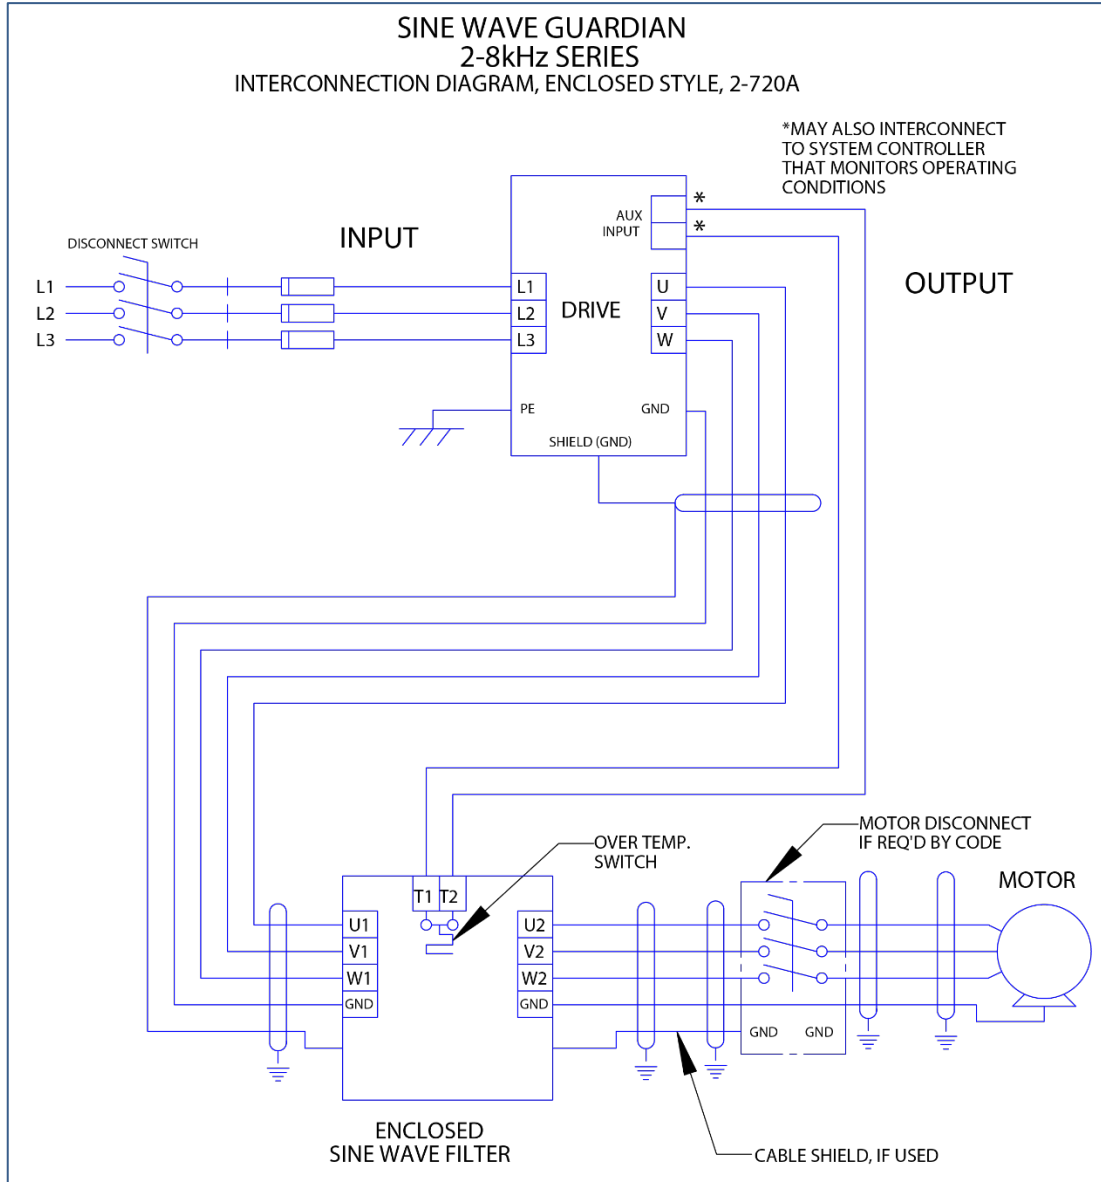

Figure 3-3: Enclosed Interconnection
- For filters supplied in general purpose NEMA 1/2 & NEMA 3R cabinets, interconnection between the filter, its power source, and the drive is shown in Figure 3-3 (p13).